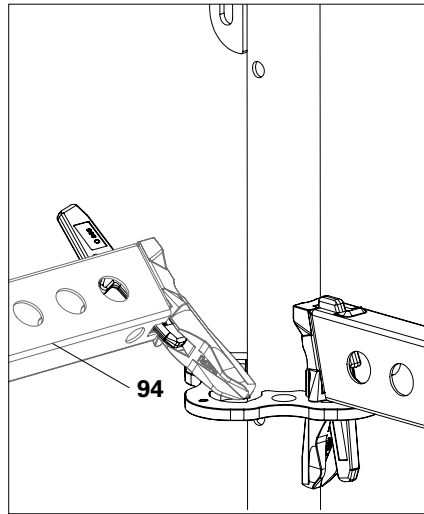

Fig. A2.01
1. Place Horizontal Ledger UH-2 (**94**) or UHV-2 diagonally on both rosettes and set vertically. (Fig. A2.01)